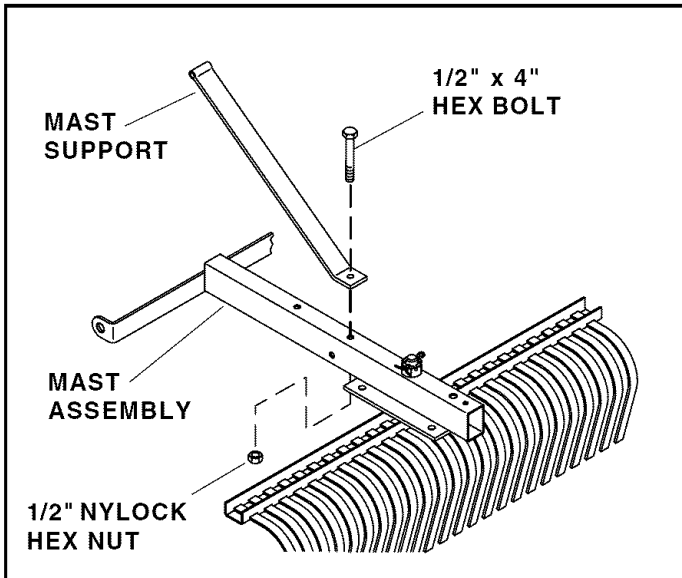

FIGURE 4
- Attach the mast support to the mast assembly using a 1/2" x 4" hex bolt and 1/2" Nylock hex nut. Use the hole located just in front of the threaded stud. Install the bolt so the nut is on the bottom side of the mast assembly. See figure 4.